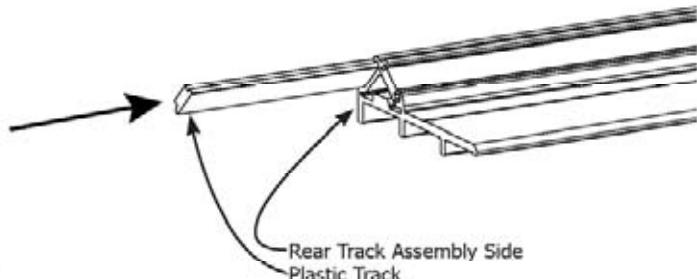

Fig. 5-4
**5-4:** Slide the 10 ft Plastic Track down the track grooves of the Back Track Support Assembly. (Fig. 5-4)